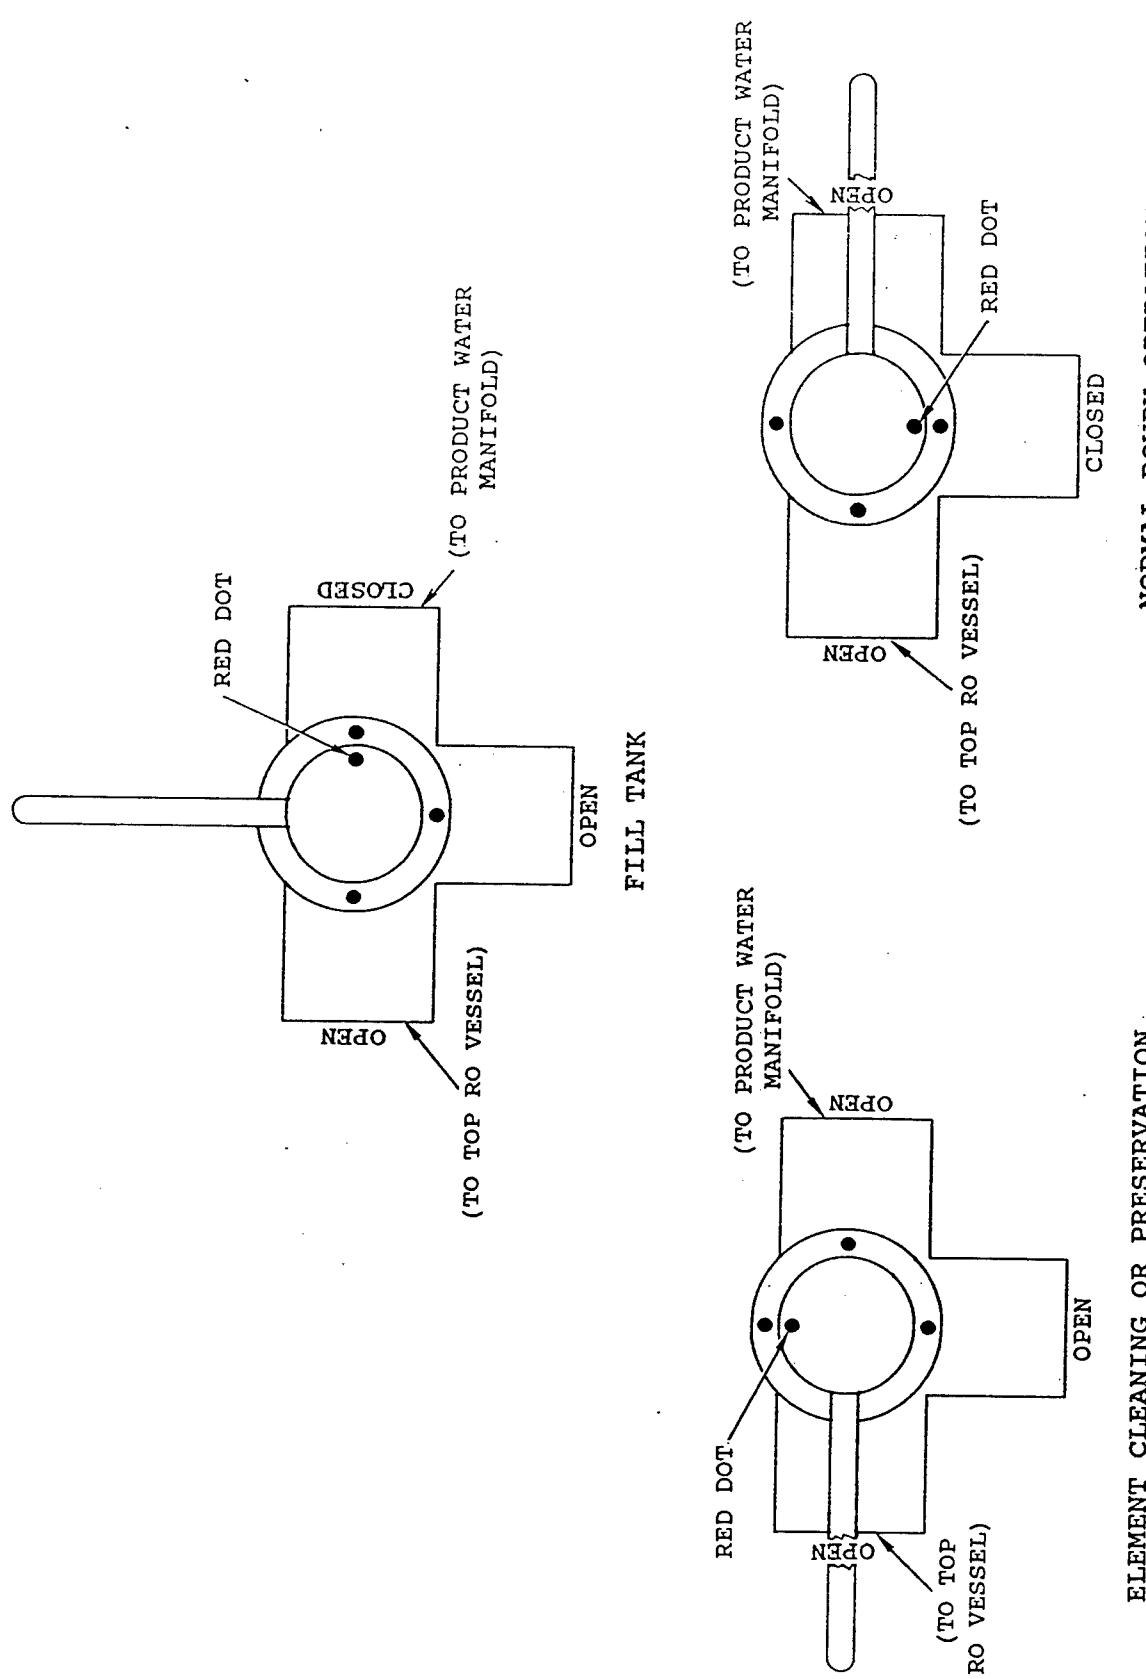
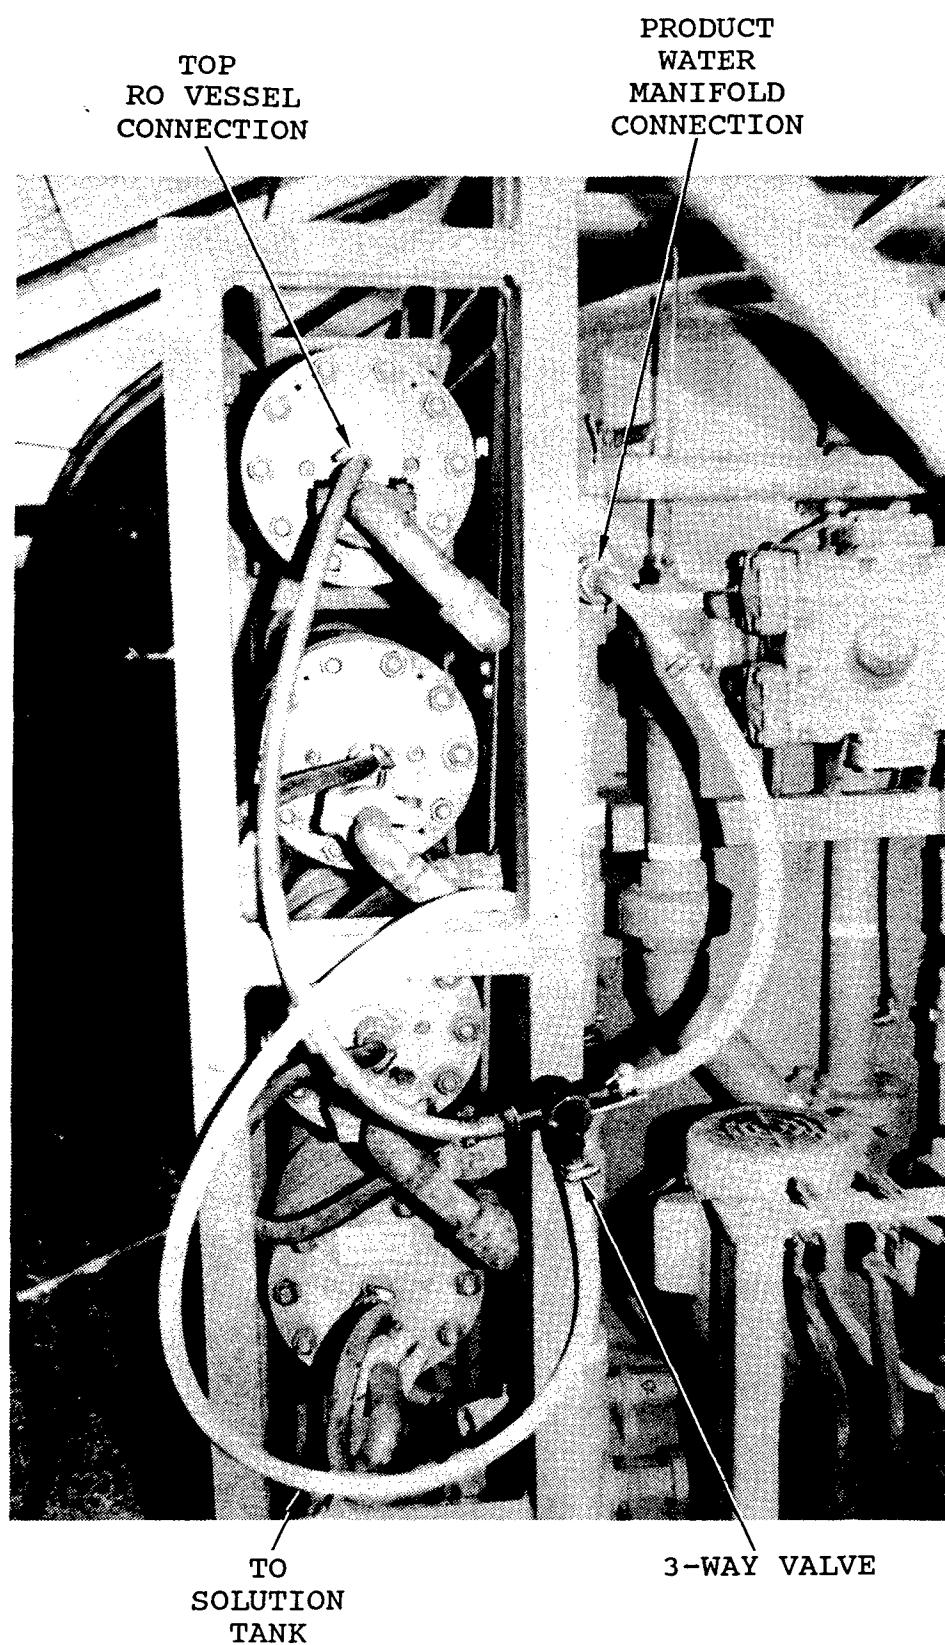

Figure 2-1. 3-Way Valve.
Figure 2-2. Installation of 3-Way Valve.
2-0.1.3 Installing the 3-Way Valve. A 3-way valve (figure 2-1) must be installed prior to ROWPU operation to enable filling of the solution tank with unchlorinated product water. The 3-way valve has two separate pieces of plastic tubing attached. One piece of tubing is attached to one end of the run of the valve and the second piece is attached to the branch of the valve. This valve is placed between the top reverse osmosis (RO) vessel and the product water manifold as shown in figure 2-2.
- c. During normal ROWPU operation keep the 3-way valve positioned so that the red dot is located at the branch of the valve as shown in figure 2-1.
- b. Prior to the shutdown of the ROWPU, rotate the valve handle so that the red dot is at the outlet of the valve "run" leading to the product water manifold, refer to figure 2-1. This will divert unchlorinated product water to the branch outlet and into the solution tank.
reposition the 3-way valve to the normal ROWPU location so that the red dot is at the branch outlet of the valve, as shown in figure 2-1. This will allow water produced by the ROWPU to enter the product water manifold.
- e. Rotate the 3-way valve to the element cleaning position as depicted in figure 2-1.